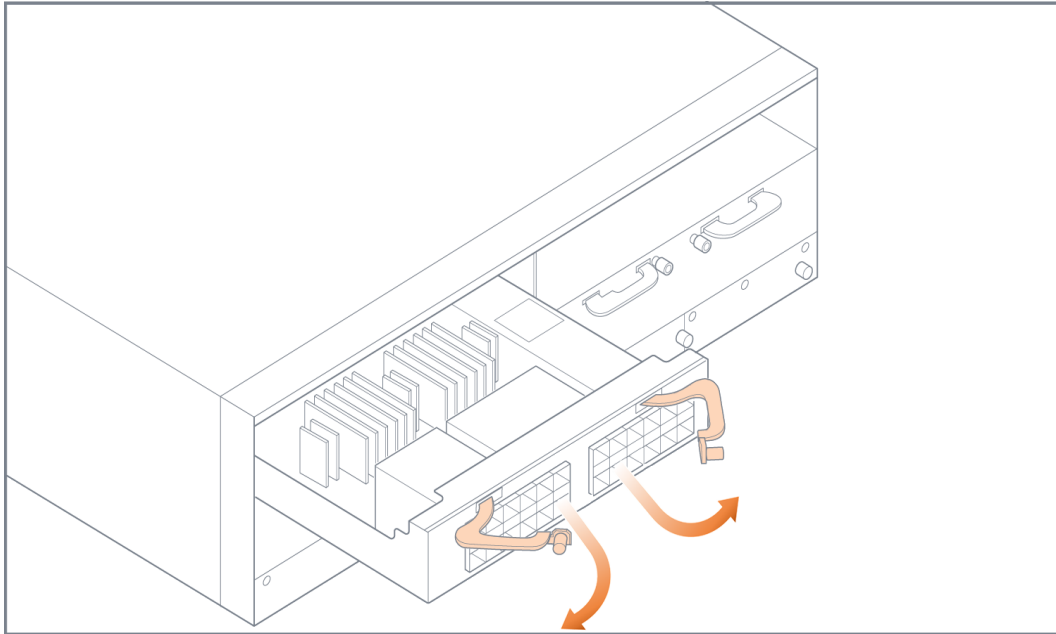

Figure 3-11: Module Levers
1. Pull out the two levers at the top of the module as shown in Figure 3-11 on page 68.